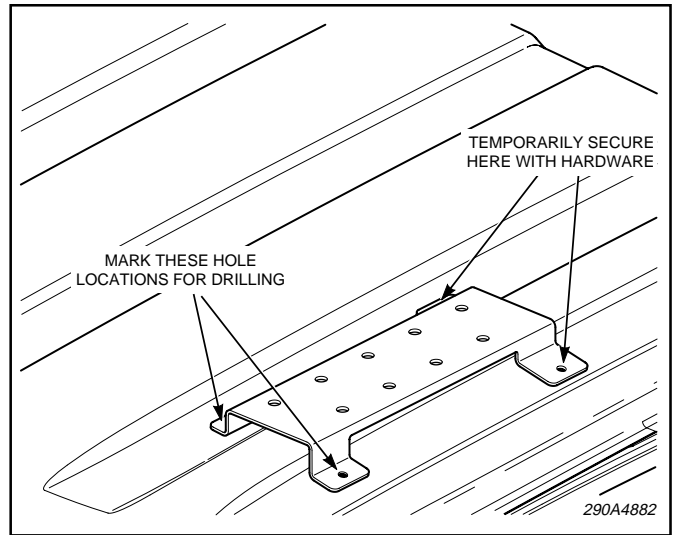

Figure 3.
5. See figure 3. Place each adapter bracket onto the roof as shown. There is one driver's side, and one passenger side bracket. The driver's side bracket has a single 1/8" hole at its front end. The passenger side has two 1/8" holes at its front end. Using the holes drilled previously and 2, 5/16" screws and nuts to temporarily secure each adapter bracket to the roof.
6. Mark the locations of the two remaining open holes at each bracket. See figure 3. Remove the adapter brackets and drill 4 additional 5/16" holes from the outside of the cab. Deburr each hole.